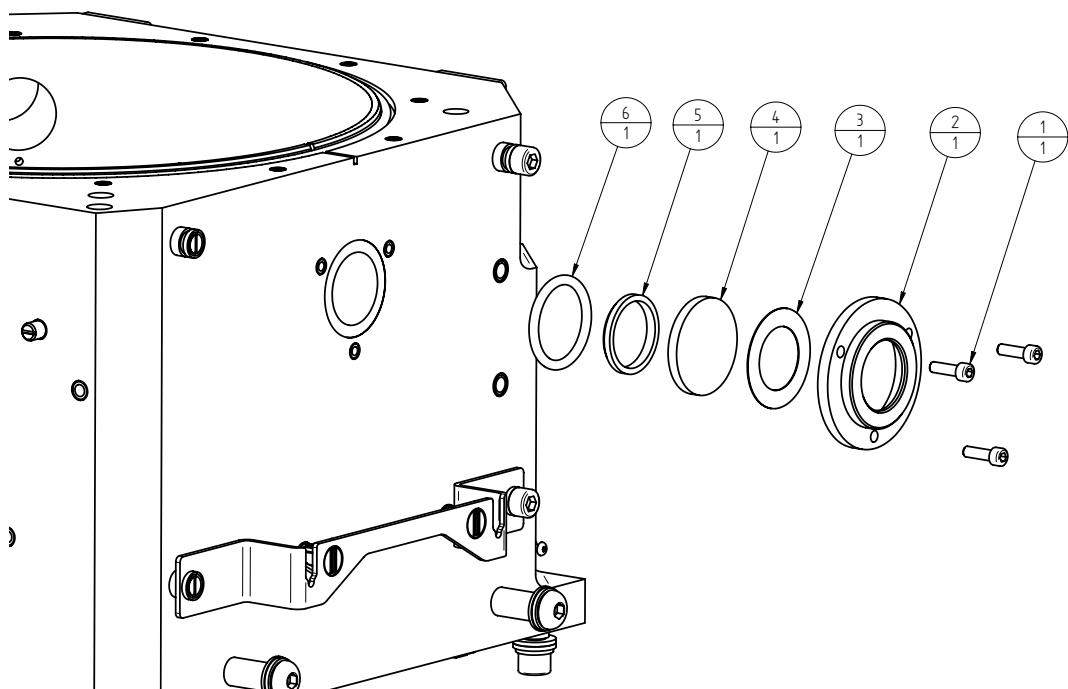

Figure 4.8 Lower Chamber Block Viewport
1. Refer to Figure 4.8.
2. Remove three M6 x 20 screws (1) and viewport flange (2).
3. Remove and discard gasket (3).
4. Remove and discard viewport glass (4).